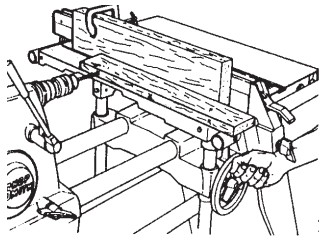

Figure D-34
3. Mark the holes on the stock, and lay it against the scrap. Make fine adjustments with the table height crank. See Figure D-34. Clamp the stock to the table.